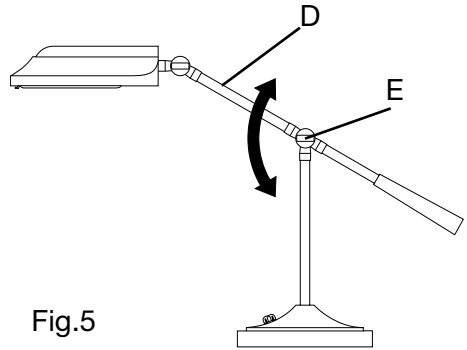

Fig.5
1. To adjust lamp height, hold lamp arm with one hand and loosen center swivel knob (E). Raise or lower lamp arm (D) to desired height. Tighten knob (Fig. 5).